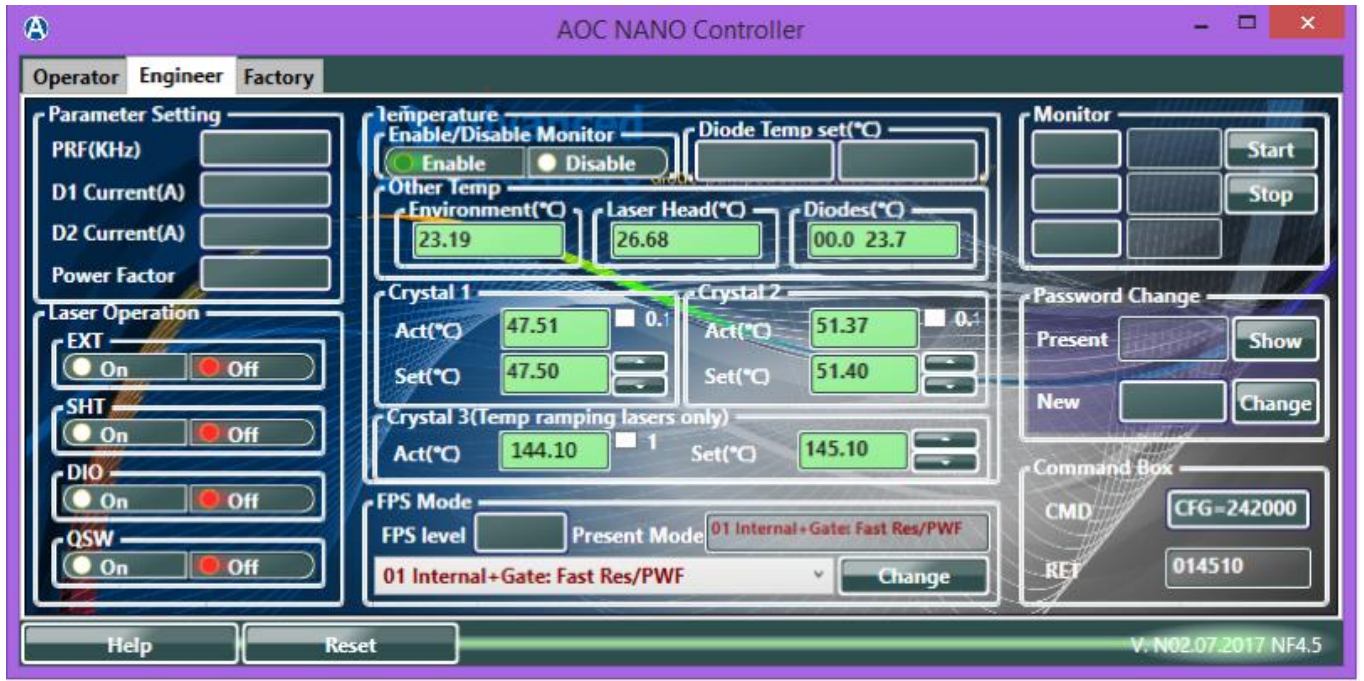

Figure 13: Advanced Optowave Graphical User Interface – GUI Engineer Tab
**4.4.2 Engineer Window Section Definitions – (Figure 13)**